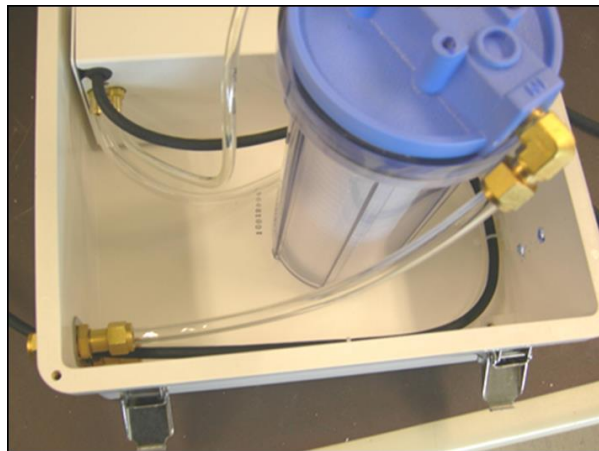

FIGURE H-2. Upright filter unit in enclosure
3. Stand the filter up in the enclosure and remove the tubing from the filter inlet by loosening the nut with an 11/16" wrench. Remove the tubing from the outlet of the filter by loosening the nut with a 9/16" wrench (FIGURE H-2).